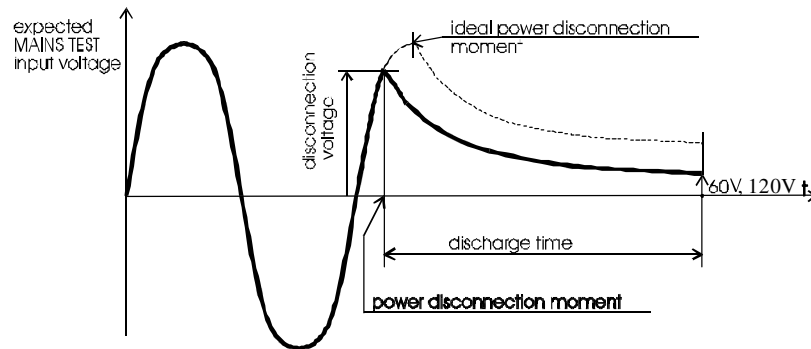

Fig. 25. Voltage on MAINSTEST input
- STEP 6.** Pull out double connection element and wait for the result to be displayed. If the disconnection voltage is high enough to carry out a measurement, (see fig. 25) **Start** message is displayed and the measurement will be performed. If the voltage is not high enough then the result of 0.0 s and **Repeat** message are displayed. In this instance repeat measurement from STEP 3. If the result 0.0 s and **Repeat** message reappears repeat measurement 5 to 10 times successively, the result 0.0. it can be accepted as valid. **Timeout** is displayed if the double connection element is not pulled out in 10 s, or discharging time is higher than 10 s.
- STEP 6.** Pull out power supply connector and wait for the result to be displayed. If the disconnection voltage is high enough to carry out a measurement, (see fig. 25) **Start** message is displayed and the measurement will be performed. If the voltage is not high enough then the result 0.0 s and **Repeat** message are displayed. In this instance repeat measurement from STEP 3. If the result 0.0 s and **Repeat** message reappears repeat measurement 5 to 10 times successively, the result 0.0. it can be accepted as valid. **Timeout** is displayed if the double connection element is not pulled out in 10 s, or discharging time is higher than 10 s.